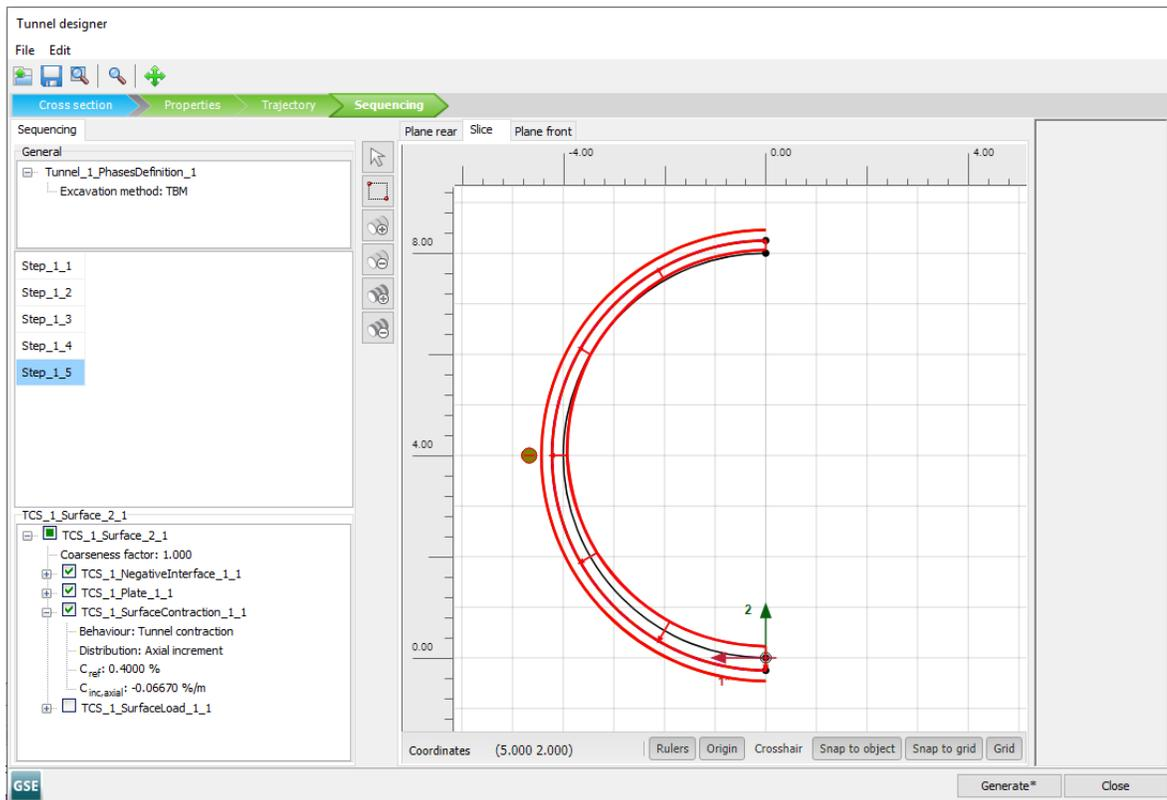

Figure 80: Slice tabsheet in the **Tunnel designer** from Step_1_3 to Step_1_5
- Click on the **Add Step** button three times to add three new steps. These steps are necessary to define the remaining cone part of the TBM shield (Figure 80 (on page 107)).
- Step_1_5: $C_{ref} = 0.4\%$, see Figure 80 (on page 107)